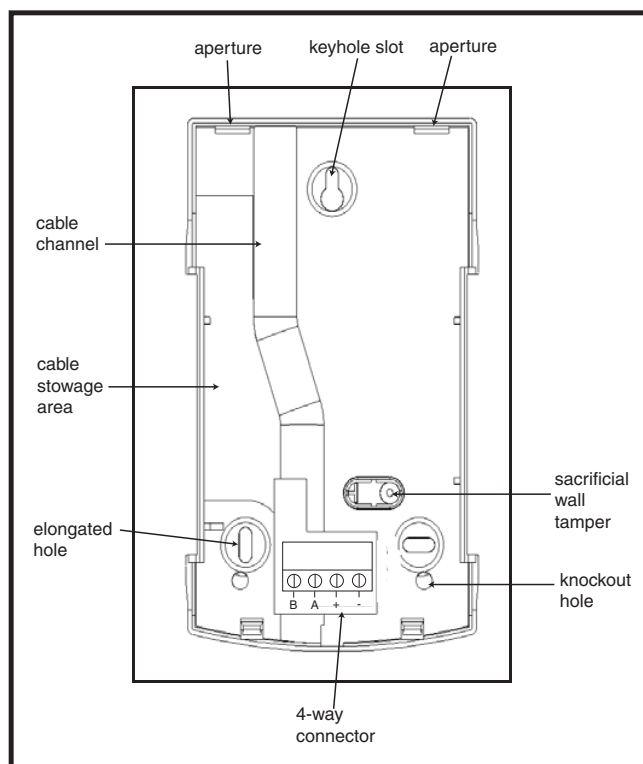

Figure 4-2. Galaxy Mk7 Keypad/KeyProx Backplate Installation
6. If an off the wall tamper is required, using a No. 6 Pan-head screw, secure the sacrificial wall tamper, indicated in Figure 4-2, to the wall. Make sure that the tamper knockout is still connected to the backplate moulding.